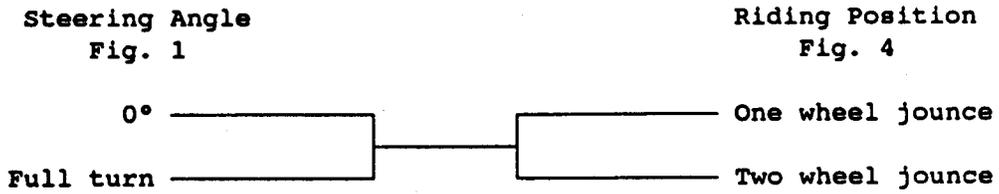

FIGURE 3—TIRE TO BODY CLEARANCE CONDITIONS FOR FRONT WHEEL GEOMETRY
- 5.1.2 SOLID AXLE FRONT SUSPENSION—Analysis of tire to body clearances to be made under the conditions of front wheel geometry in Figure 3.